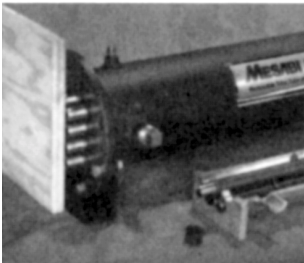

Figure 5A: Short End
5. Place a plastic or wood backstop against the short tube ends to keep them from being pushed out during the next step. **DO NOT** use metal, as a metal backstop could cause damage to the tube ends (see Fig. 5A).